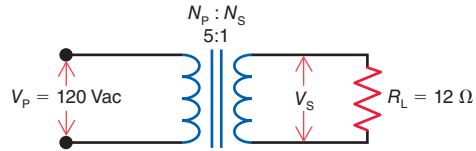

Figure 18-30
- 18.15** In Fig. 18-30, solve for